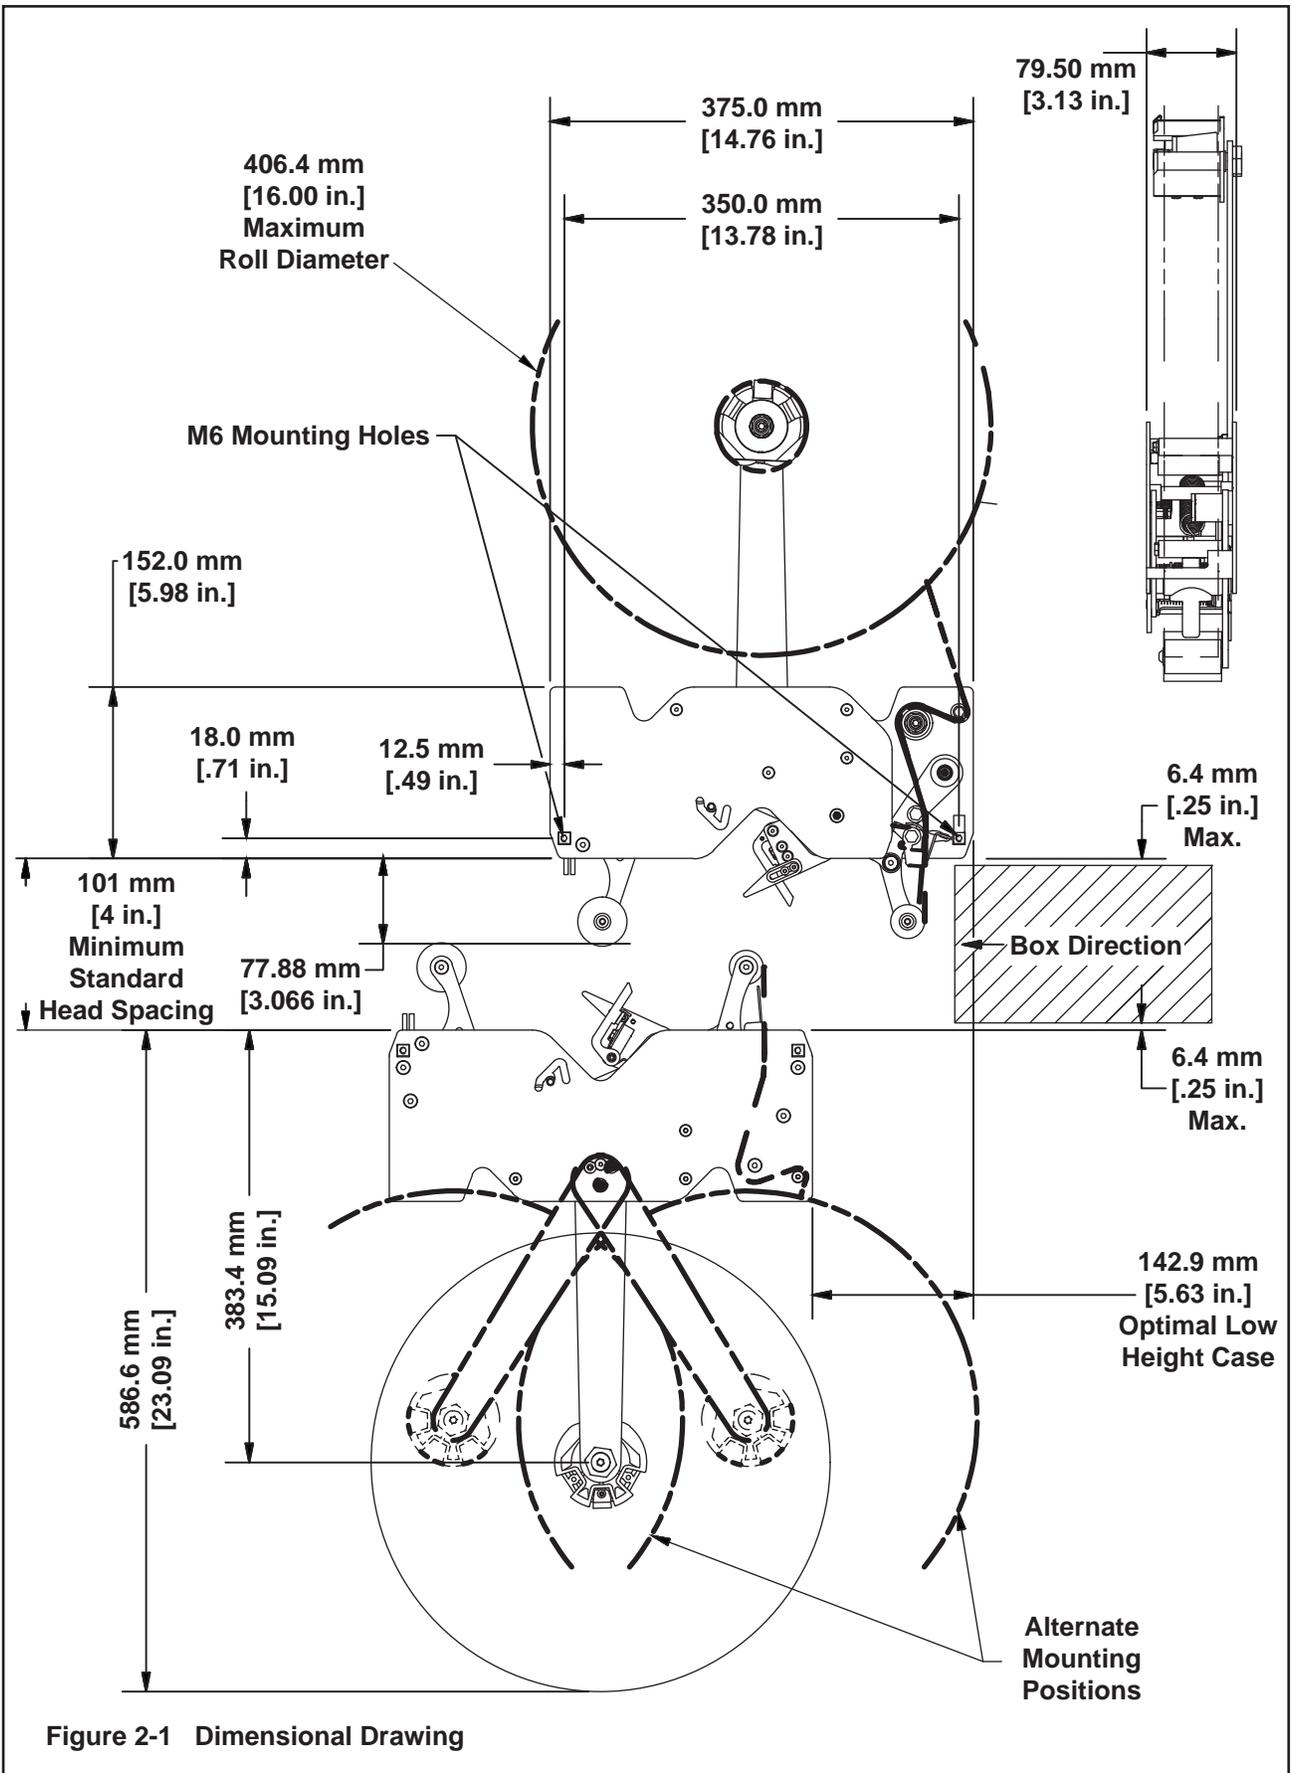

Figure 2-1 Dimensional Drawing
Refer to "Box Size Capacities," as well as **Figure 2-1** in the Specifications section for installation and conversion guidelines.
3. **Figure 2-1** illustrates the typical mounting relationship for opposing taping head assemblies to allow taping of box heights (see specifications). The taping heads must be completely staggered so only one tape seal is being applied at one time.